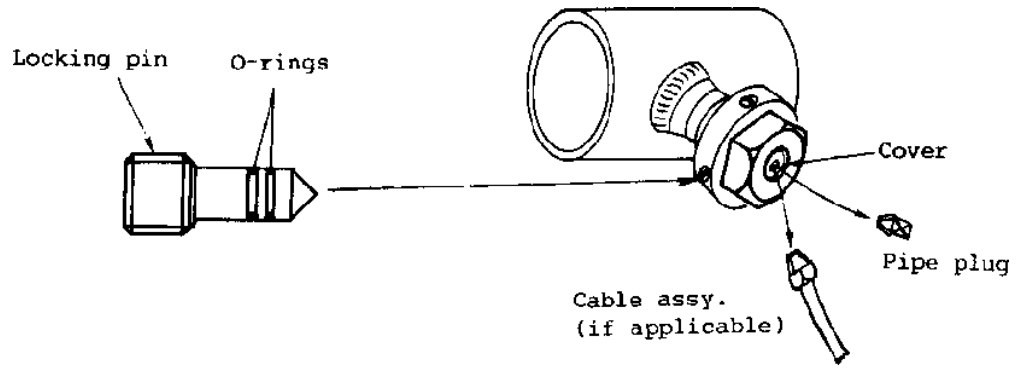

Fig. 3
4. **Inspect, and if necessary clean, the hole in the access fitting, especially the surface for the O-rings. (fig. 3)**